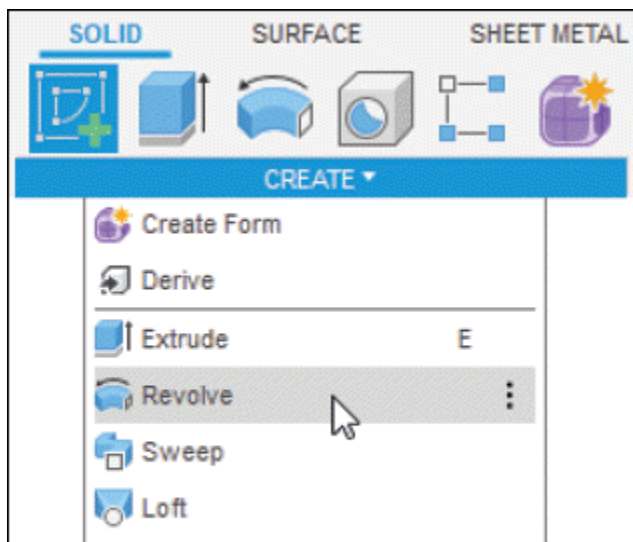
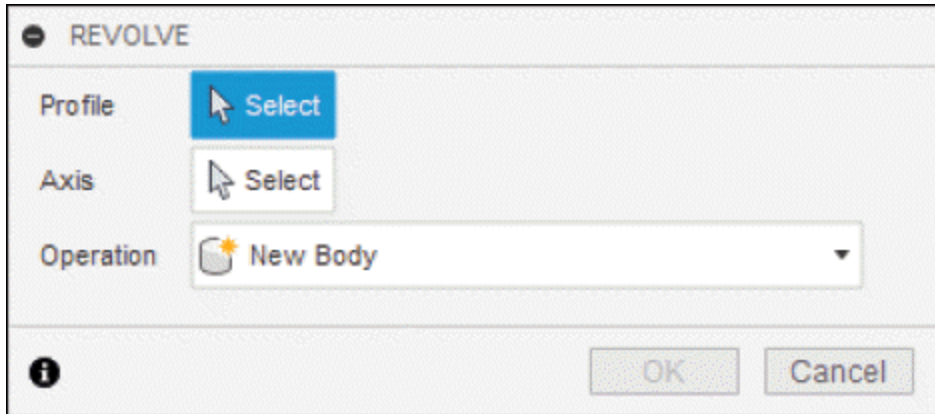

Figure-49. Revolve tool
Figure-50. REVOLVE dialog box
- Click on **Revolve** tool from **CREATE** drop-down of **Toolbar**; refer to Figure-49. The **REVOLVE** dialog box will be displayed; refer to Figure-50.